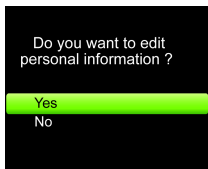
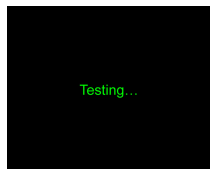
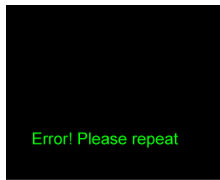
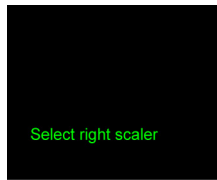

Figure 6-1
Figure 6-2
Figure 6-18
Figure 6-19
- 2) The device is in selective interface after turn on as Figure 6-1, press “Up”, “Down” key to adjust, select “No” to “Testing” interface as Figure 6-2.
If the previous display is “ON”, then press the confirm key to jump to previous state (Namely: If the measurement has been completed before reviewing, then close this function, display “OFF” state, or jump to the measurement interface shown as Figure 6-1).
Select “Delete Data” to its sub-menu as Figure 6-15, select “Yes” to delete all the data, and display “waiting...”, then return to “Control Setting” interface as Figure 6-14, in the case of this state, exit in turn until to the interface as Figure 6-1, then you can continue testing. Select “No” to exit directly to the interface as Figure 6-14.
Finally the interface will jump to the former interface before scaling (Calibration). If Figure 6-18 appears, it indicates the scaler (Calibration) is error, then repeat scaling (Calibration) until succeeding. If Figure 6-19 appears, then please confirm the volume between scaler (Calibration) and selected is accordant, then scaling (Calibrate) until succeeding. If you need to stop scaling (Calibration), only press the confirm key to exit to the former interface before scaling (Calibration). (The interface before scaling (Calibration) refers to: If scaling (Calibrate) after completing measuring, then it will exit to the control setting interface, otherwise jump to the measurement interface as Figure 6-1).
(**Note:** Figure 6-1 is selective interface, and “Yes” indicates that you can edit patient information).